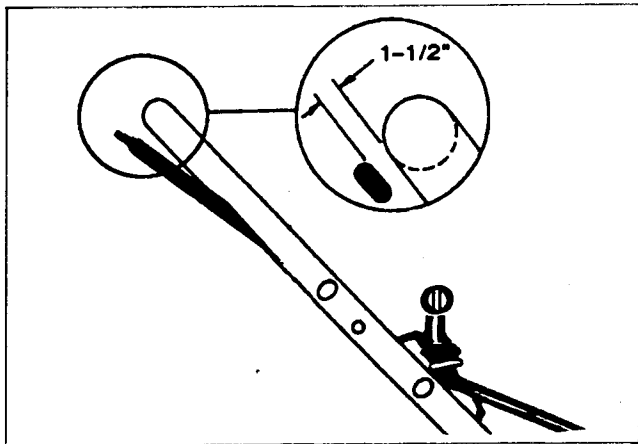

Figure 5
2. Lift the control bar until some resistance is felt. The control bar should be 4 cm (1-1/2") from the handle when properly adjusted. See Figure 5.